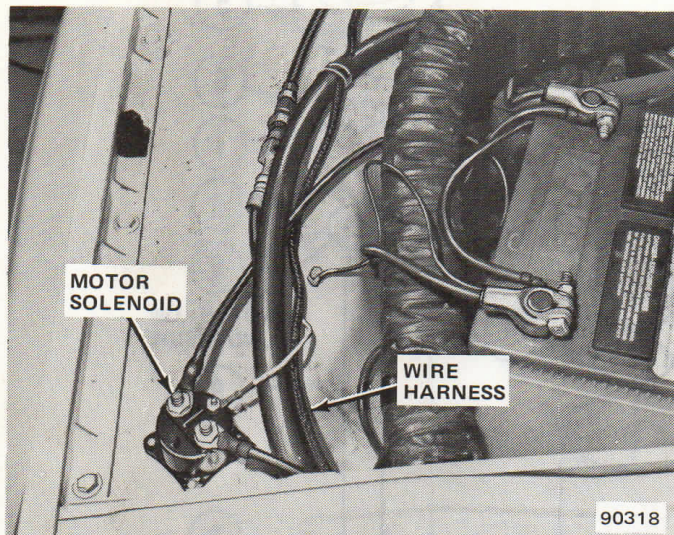

Fig. 1-20 Motor Solenoid Installation
(6) Drill holes and install solenoid with screws to right front inner fender (fig. 1-20).